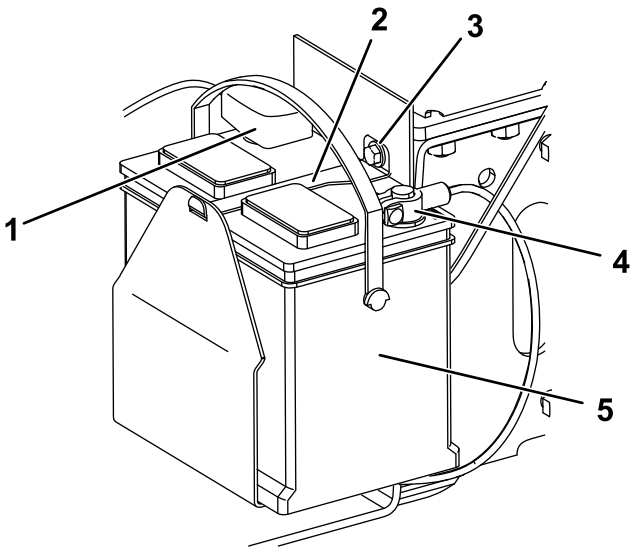

Figure 38
- 1. Bolt (3)
- 5. Remove the bolt, washer, and bar securing the battery (Figure 38).
- 6. Disconnect the negative (black) ground cable from the battery post (Figure 38). Retain the fasteners.
- 8. Disconnect the positive (red) cable from the battery post (Figure 38). Retain the fasteners.
1. Using the fasteners previously removed, install the positive (red) battery cable to the positive (+) battery terminal (Figure 38).
3. Using the fasteners previously removed, install the negative (black) battery cable to the negative (-) battery terminal (Figure 38).
4. Secure the battery using the bar, bolt, and washer (Figure 38).